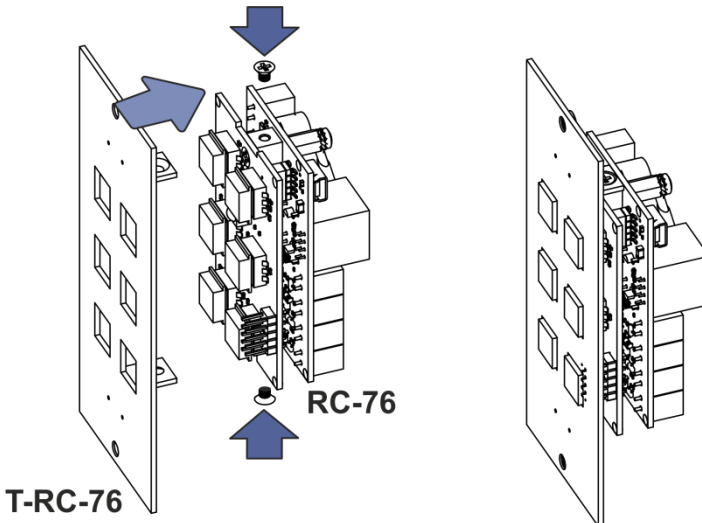

Figure 8: T-RC-76/T-RC-78 Installation
2. Fit the **T-RC-76** over the buttons of the **RC-76**; insert the two mounting plate screws through the **T-RC-76** mounting bracket screw holes and tighten them (see Figure 8).